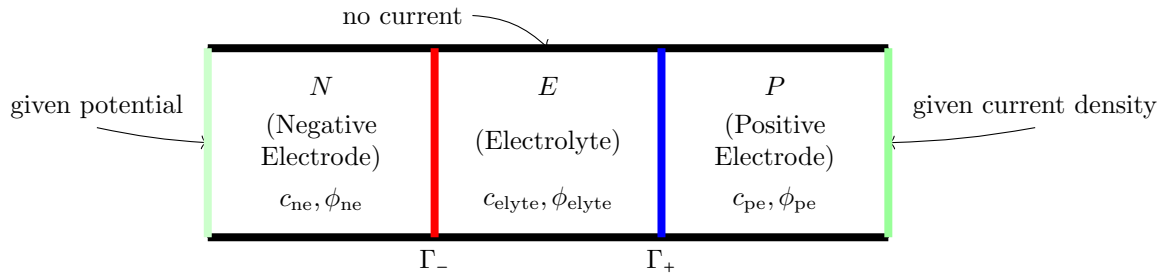

FIGURE 5. Battery model
We consider a 2D battery with two electrodes and an electrolyte. At the external side of the positive electrode, we impose a constant current and a constant potential at the external face of the negative electrode. The unknown in each domain are the electrical potential and the concentration of Lithium in its different form (LiC_6 , Li^+ and LiMnO), see Figure 5. The governing equations in the electrolyte are given in (15). In the electrodes, the lithium (LiC_6 and LiMnO) diffuses and the governing equations in these domains are given by mass conservation and charge conservation.
Question 16: *Explain how the reaction contributions in the charge and mass balance equations, which occur at the interface (γ_\pm in Figure 5), can be transformed into a volumetric source.*